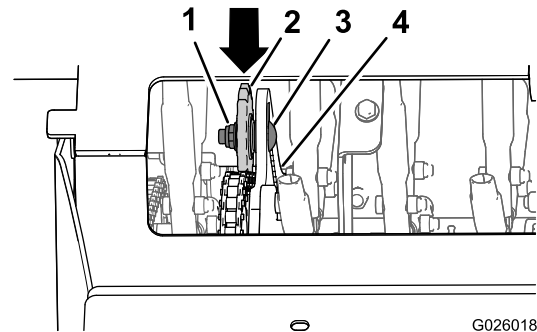

Figure 61
4. Loosen the locknut and carriage bolt that secure the idler sprocket (Figure 61).
- Push down and forward on the sprocket to increase the chain tension as shown in Figure 61.